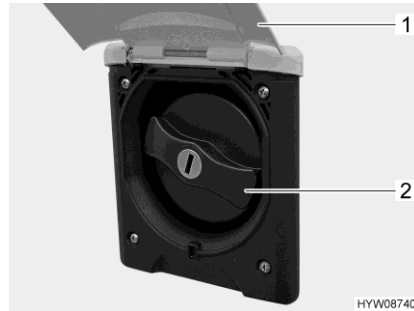

Fig. 209 Cap (drinking water filler neck)
- Swivel the external flap (Fig. 209,1) upwards.
- Turn the blue cap (Fig. 209,2) one quarter turn.